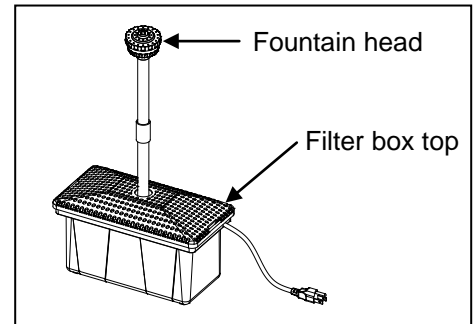

Fig. 7
7. Connect the fountain head on the top extension tube. Fig. 7